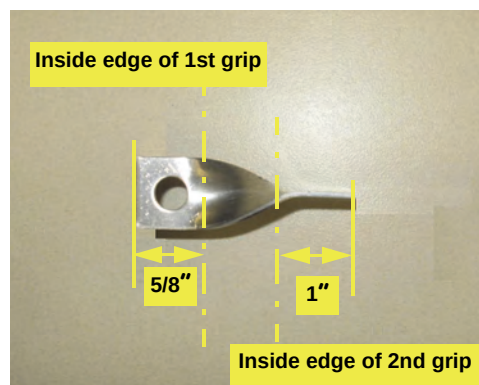

Figure 1d: Twisted bracket (not to scale)
- The inside edge of your second grip is 1" from the recently cut end (Figure 1d - not to scale).